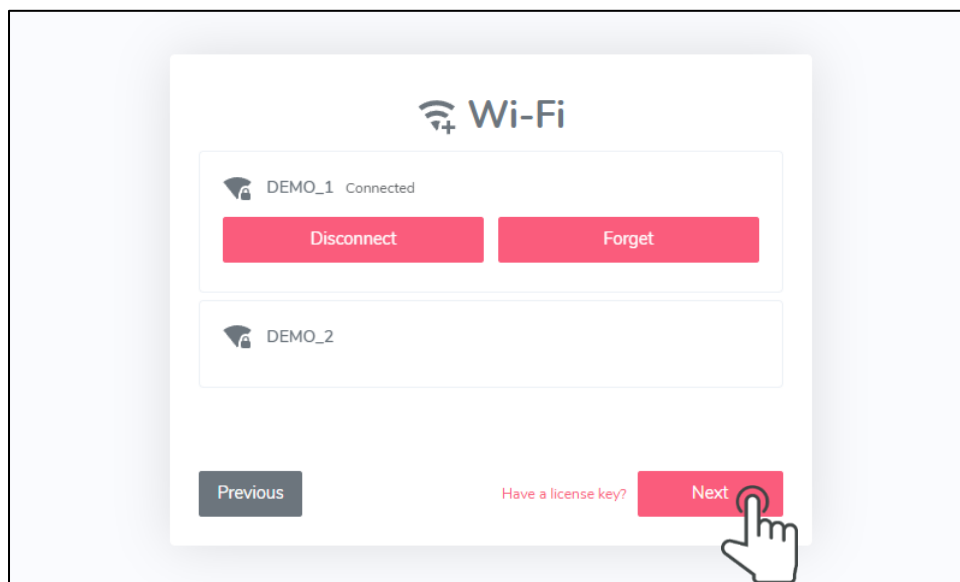

Figure 7
3. Once connected to Wi-Fi, the status will display 'Connected' next to the Wi-Fi name, allowing the setup to proceed to the next step (Figure 7).